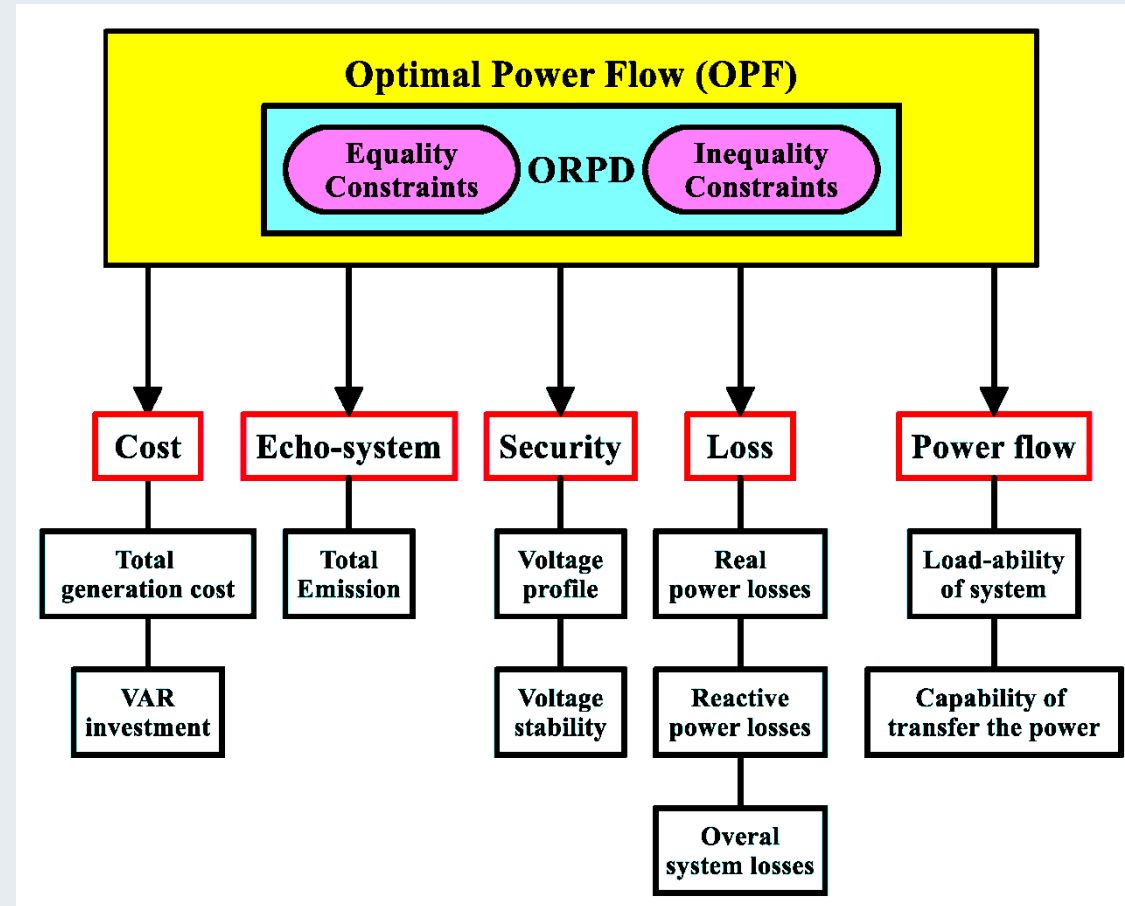

Figure 1: OPF components.
- Generally, OPF needs to understand the overall power system reliability and it comprises many parameters as presented in Fig.1[1].